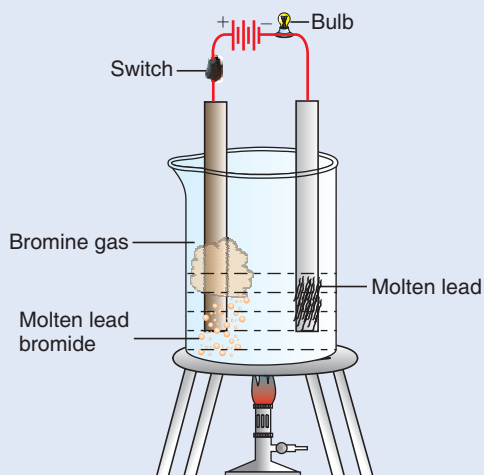

Figure 3.6 Electrolysis of Fused Lead Bromide.
1. Assemble the materials as shown in Figure 3.6.
2. Place small amount of lead bromide crystals in a beaker. Insert the two electrodes, as shown in Figure 3.6, until they are in contact with the lead bromide crystals. Then turn on the switch. Does the bulb glow?